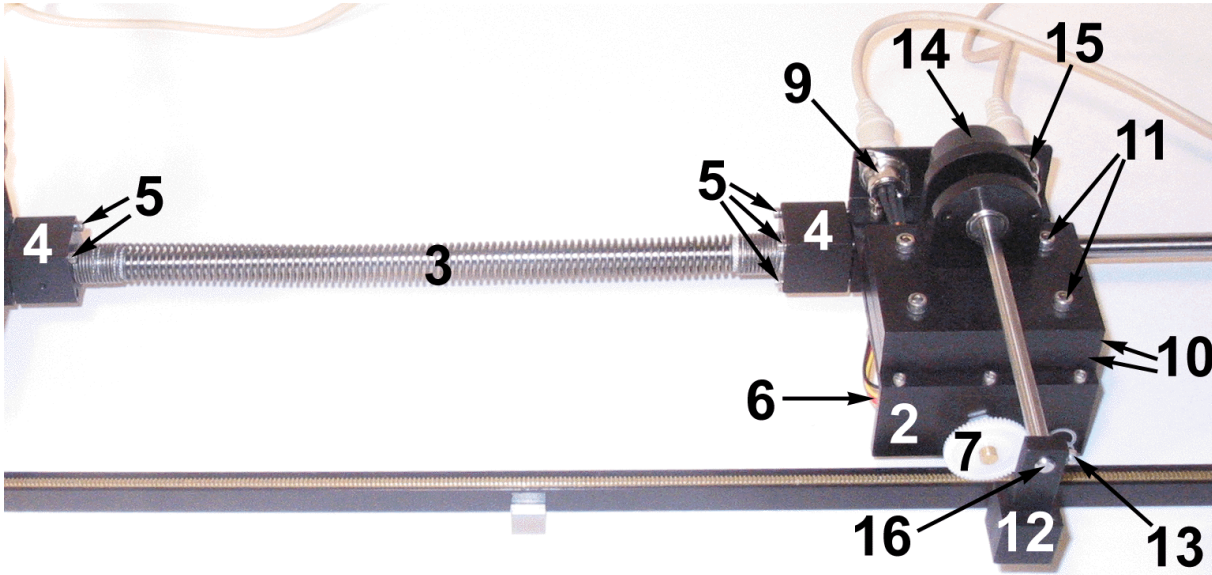
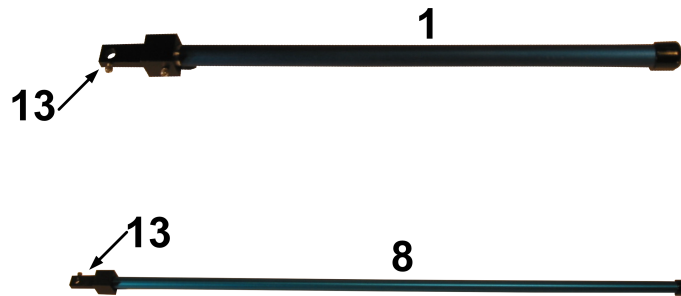
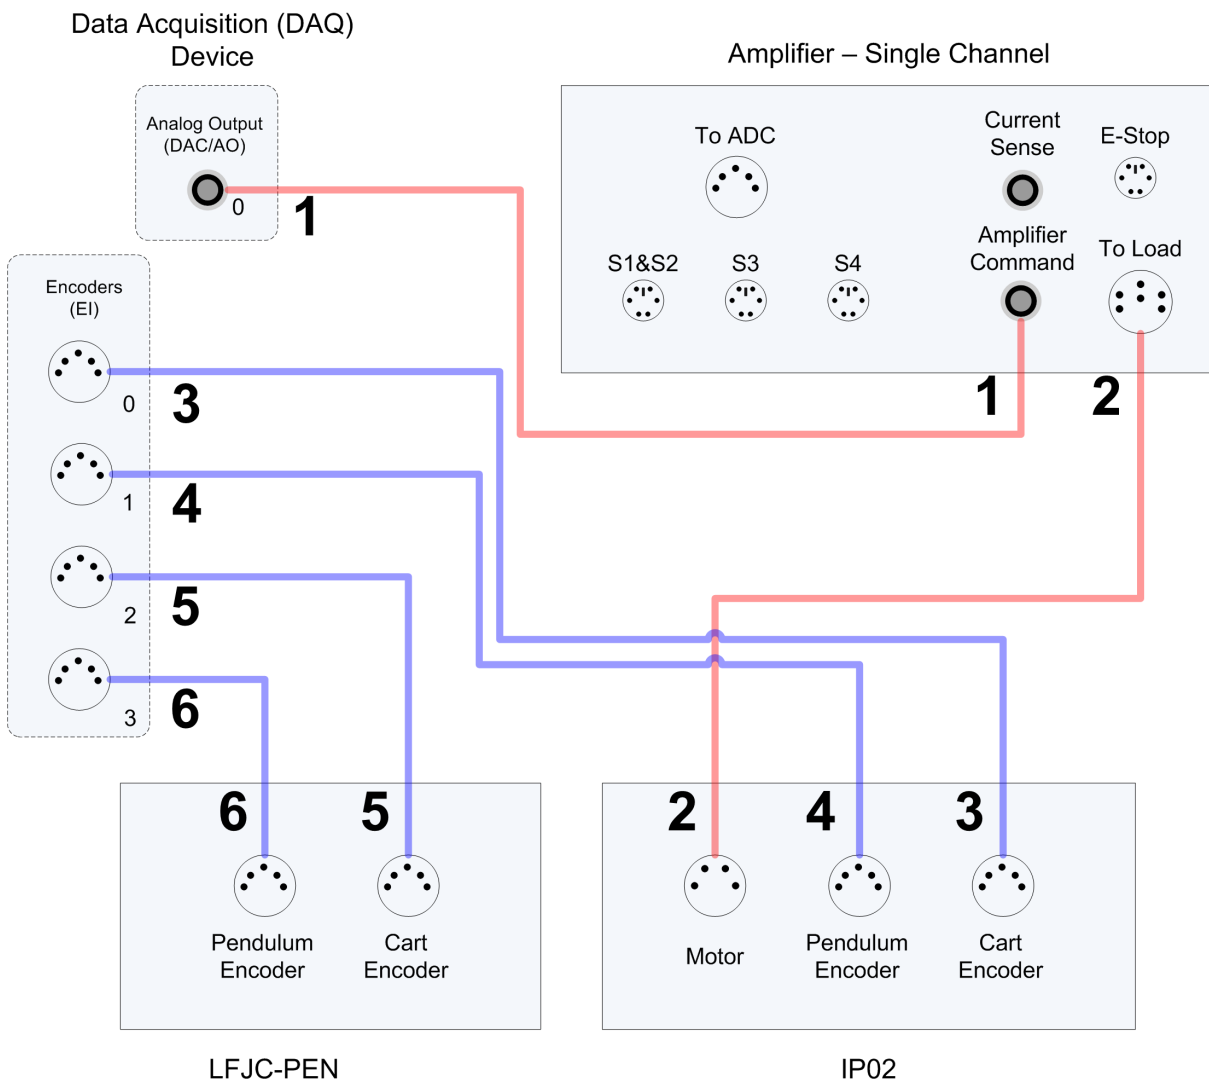

Figure 2.1: LFJC-PEN-E Nomenclature
Figure 2.2: SIP Nomenclature
Figure 5.1: Connecting the LFJC-PEN-E system to an amplifier and DAQ board.
Figure 2.1 and Figure 2.2, below, depict the LFJC-PEN-E modules, respectively.
As a component nomenclature, Table 2.1, below, provides a list of all the principal elements composing the LFJC-PEN-E sub-systems. Each of these elements is located and identified, through a unique identification (ID) number, on both LFJC-PEN-E systems, as represented in Figure 2.1 and Figure 2.2.
The LFJC-PEN-E has an optical encoder which is used to measure the cart position, represented in Figure 2.1 by components # 5. The encoder measuring the LFJC-PEN-E cart linear position does so through a rack-pinion system. The encoder model used in the LFJC-PEN-E is a US Digital S1 single-ended optical shaft encoder. It offers a high resolution of 4096 counts per revolution (i.e. 1024 lines per revolution with two channels in quadrature). The complete specification sheet of the S1 optical shaft encoder is included in [1]. Remark that incremental encoders measure the relative angle of the shaft.
3. Attach the linear spring square fitting (component #4 in Figure 2.1) to your IP02 cart. To do so, fasten the set screws labeled ID #5 in Figure 2.1.
5. Mount the two additional weights (components #10 in Figure 2.1) on top of your LFJC-PEN-E system, if not already done. To that effect, fasten the set screws numbered 11 in Figure 2.1.
6. Insert the long pendulum rod (i.e., 24-inch) inside its corresponding T-fitting (i.e. component #12 in Figure 2.1). Ensure that it sits properly. Tighten set screw #13, as required.
This section describes the standard wiring procedure and typical cabling connections that are used by default in the Quanser LFJC-PEN-E laboratory described in [2]. These cabling connections use standard cables, whose description and nomenclature can be found in [3]. Figure 5.1, below, shows the LFJC system, the DAQ board, and the amplifier (e.g., VoltPAQ), all connected with the necessary cabling to interface to and use the LFJC-PEN-E system.
1. **Connect the LFJC-PEN-E Position "Encoder" Cable-Cable #5:** The "Encoder" cable is the 5-pin-stereo-DIN-to-5-pin-stereo-DIN cable described in [3]. First connect one end of the cable to the **LFJC-PEN-E Encoder Connector**, which is shown as component #9 in Figure 2.1. Then connect the other cable end to the **Encoder Input 2** on your DAQ device terminal board. This is illustrated by cable #4 in Figure 5.1.
2. **Connect the LFJC-PEN-E Pendulum Angle "Encoder" Cable-Cable #6:** First connect one end of the cable to the **LFJC-PEN-E Pendulum Encoder Connector**, which is shown as component #15 in Figure 2.1. Then connect the other cable end to the **Encoder Input 3** on your DAQ device terminal board. This is illustrated by cable #5 in Figure 5.1.
Figure 5.1 and Table 5.2 sum up the electrical connections recommended to run the LFJC-PEN-E system.